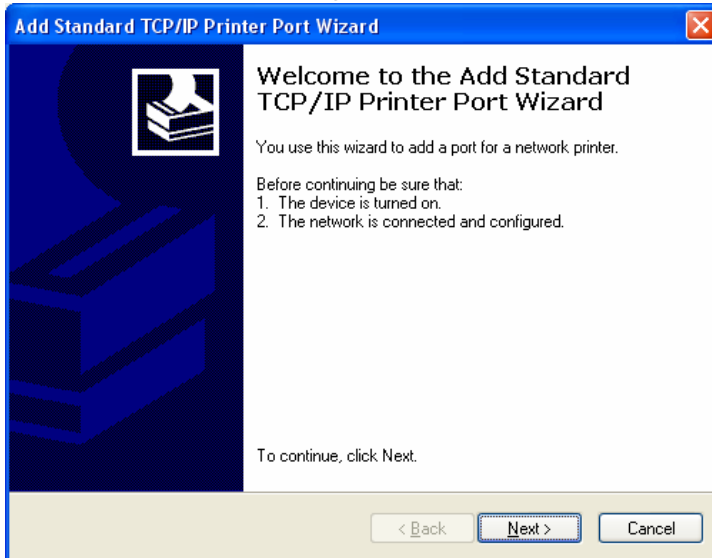

Figure 5.5.4
- 4) Click “Next” as shown in Figure 5.5.4;